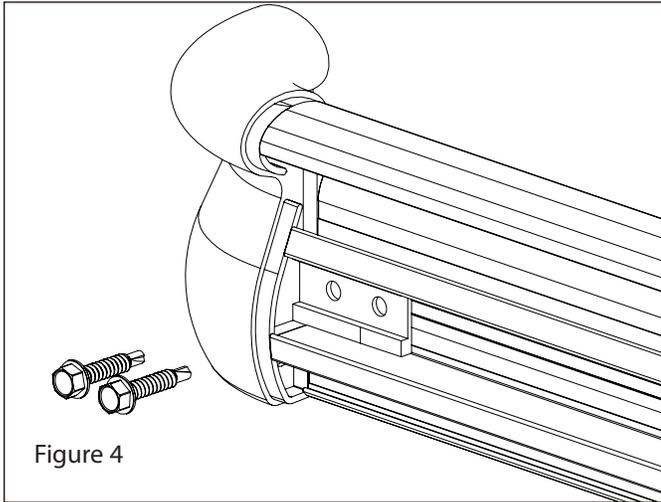

Figure 4
4. Attach the return to the aluminum retainer using the included self drilling hex screws (see figure 4). Repeat for other side of aluminum retainer. Ensure there is no gap between returns and aluminum retainer.